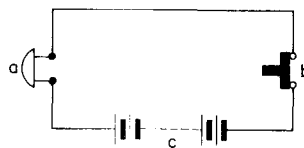

Fig. 3.176
6. Fig. 3.176 shows a one-bell push operating one bell. Name the parts lettered a, b and c.